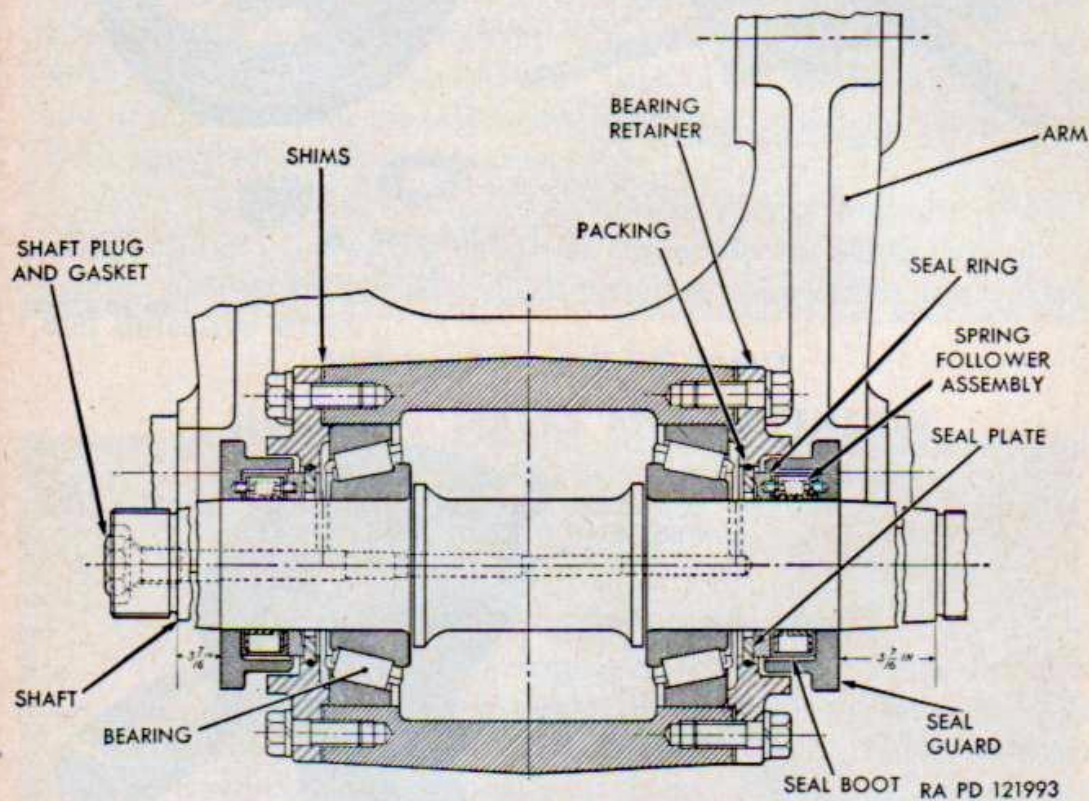

Figure 154. Suspension wheel shaft and bearing details.
- (3) *Install bearing retainers and adjust bearings.* Using 0.007-inch and 0.031-inch shim under each retainer, install the bearing retainers with six cap screws with lock washers in each (fig. 154). After tightening cap screws, roll shaft by hand and test for end play. Remove or add shims under retainers until all end play is removed and a slight preload is felt on bearings when shaft is turned. If necessary to remove or add more than 0.020-inch thickness of shim, remove both retainers to keep the total thickness of shims on each side as nearly equal as possible. Always test bearing adjustment with the retainer cap screws tight.